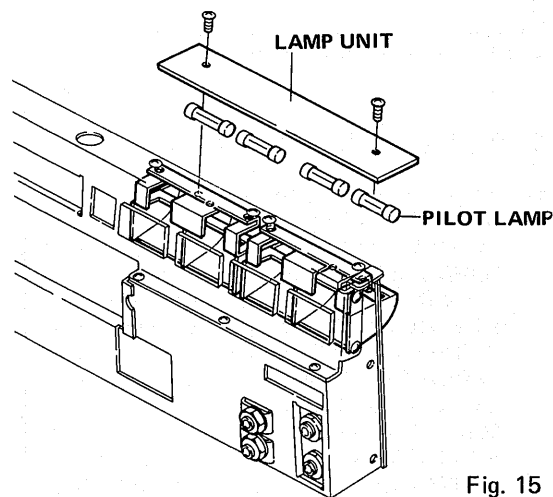

Fig. 15
2. Unscrew 2 screws, as shown in Fig. 15, to remove the lamp unit, then replace with a new one.